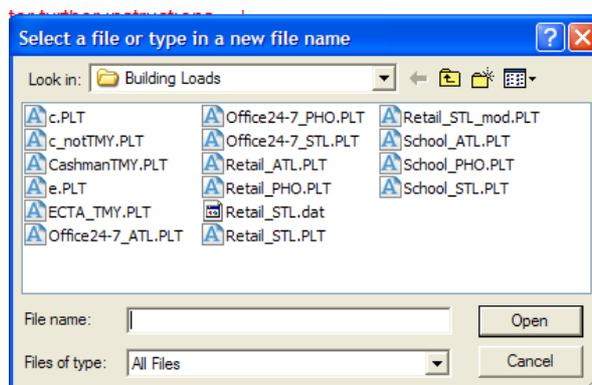

Figure 11. Building Load Selection Window
- 5.) Specify the building load file to be used as the basis of the simulation. Click inside of the box to the right of *Building loads file* and a File Selection Window will appear (Figure 11).